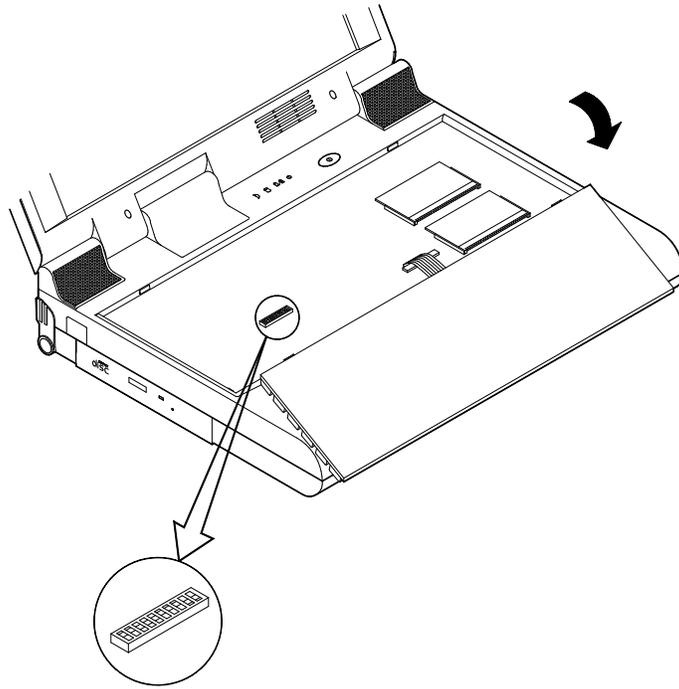

Figure 2-4
3. Carefully lift the keyboard assembly out so that the mainboard is exposed. Employ the 10-pole DIP Switch to set the configuration (Figure 2-4).